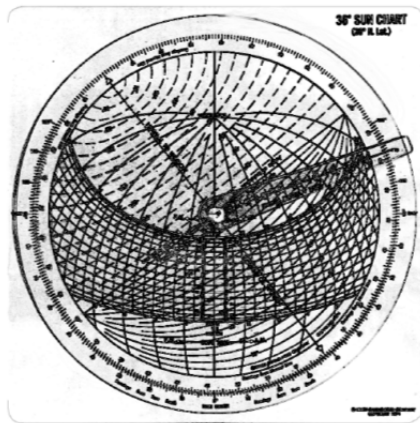

Figure 25: For more exact sizing, use the Pilkington Sun Angle Calculator
- **Pilkington Sun Angle Calculator.** A more thorough and accurate method uses this easy manual tool (Figure 25, available online for \$25 from the Society of Building Science Educators at [www.sbse.org/resources/sac](http://www.sbse.org/resources/sac)). The instruction manual is also available for free download on the SBSE website. Similar software tools can now be found on the web.